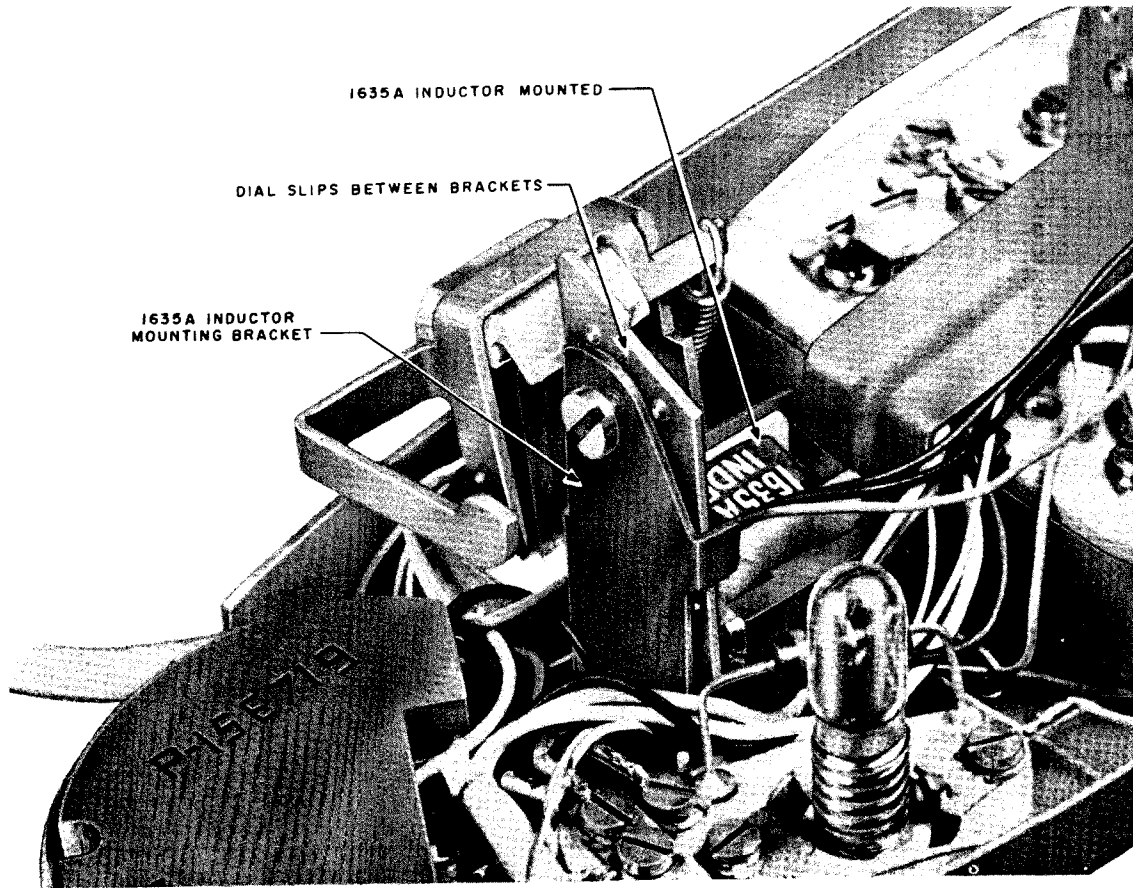

Fig. 7 – 1635A Inductor Mounted in 701B Telephone Set
**2.09** To install the 1635A inductor, follow steps 1 and 2 of 2.08. Then remove left screw from dial mounting bracket. Place inductor as shown in Fig. 7. Replace screw through hole in inductor bracket and connect leads. Replace the dial making sure the left dial mounting fork is between the two brackets.